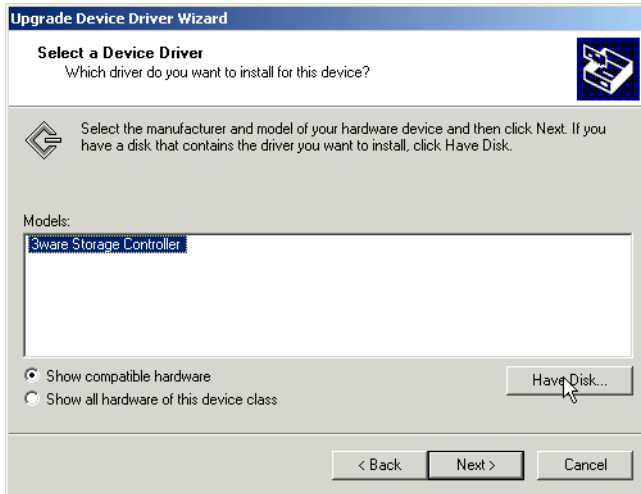

Figure 40. Select a Device Driver
- 2 The **Select a Device Driver** dialog appears (see Figure 40). Click on the **Have Disk...** button.